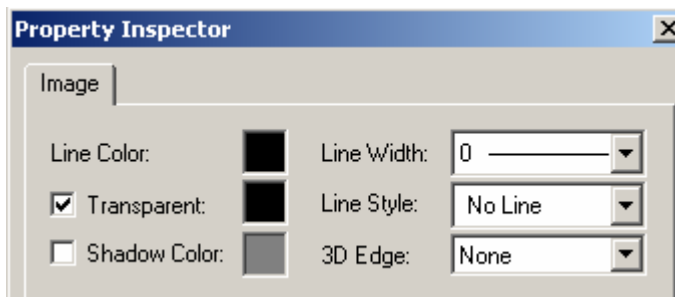

Figure 5.23. Making a Transparent Bitmap
8. Double-click on the bitmap image of the meter to open its **Property Inspector**. Check the **Transparent** check box, as shown in **Figure 5.23**, thereby making anything blue in the bitmap invisible and creating an irregularly shaped bitmap. Click **OK** to save these changes.